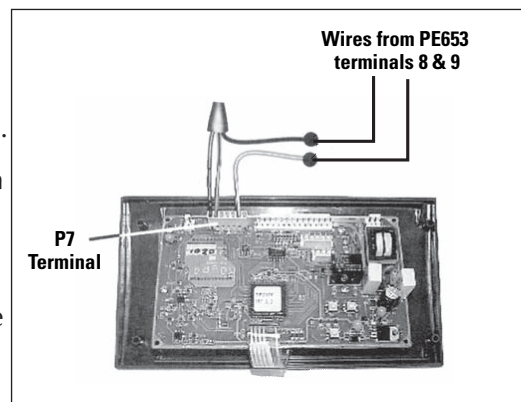

Figure 3-27 — Typical wiring connection for Raypak
5. Connect the yellow/black wire to the wire from terminal 9 in the PE653. (see Figure 3-27)